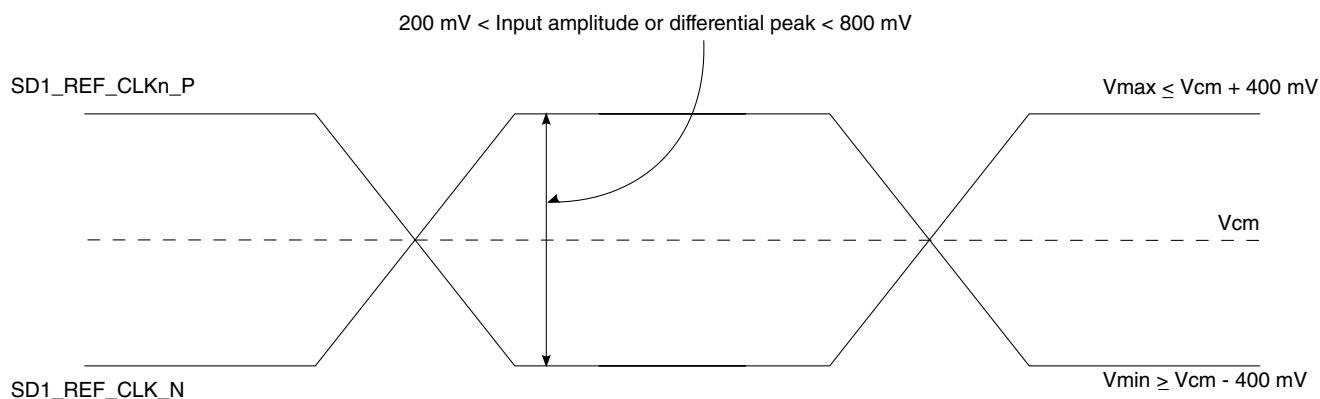

Figure 64. Differential reference clock input DC requirements (external AC-coupled)
- For an external AC-coupled connection, there is no common mode voltage requirement for the clock driver. Because the external AC-coupling capacitor blocks the DC level, the clock driver and the SerDes reference clock receiver operate in different common mode voltages. The SerDes reference clock receiver in this connection scheme has its common mode voltage set to SGND_n. Each signal wire of the differential inputs is allowed to swing below and above the common mode voltage (SGND_n). Figure 64 shows the SerDes reference clock input requirement for AC-coupled connection scheme.